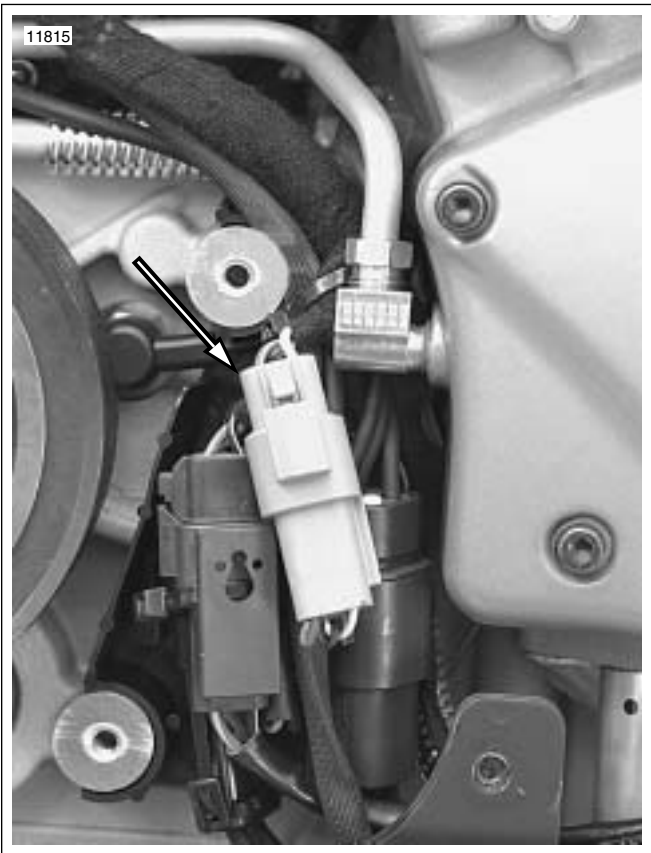

Figure 7-66. Vehicle Speed Sensor Connector [65]
1. See Figure 7-66. Locate the 3-place vehicle speed sensor connector [65] under the sprocket cover. See 7.25 SPROCKET COVER WIRING.
1. See Figure 7-66. Disconnect vehicle speed sensor connector [65]. Attach speedometer tester connector to vehicle speed sensor connector.